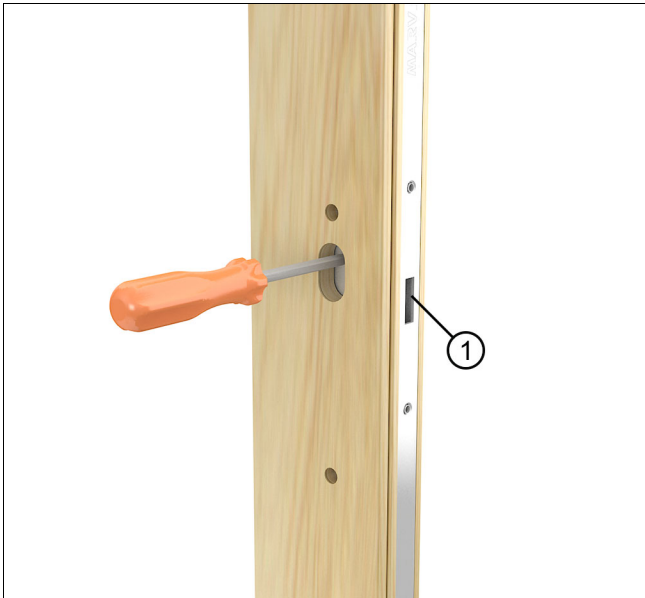

Figure 2 Sliding French Door
1. With the active panel open, depress and hold the anti-slam feature while placing the locking hardware into a locked state by using a flat head screw driver. See Figure 2 and Figure 3.